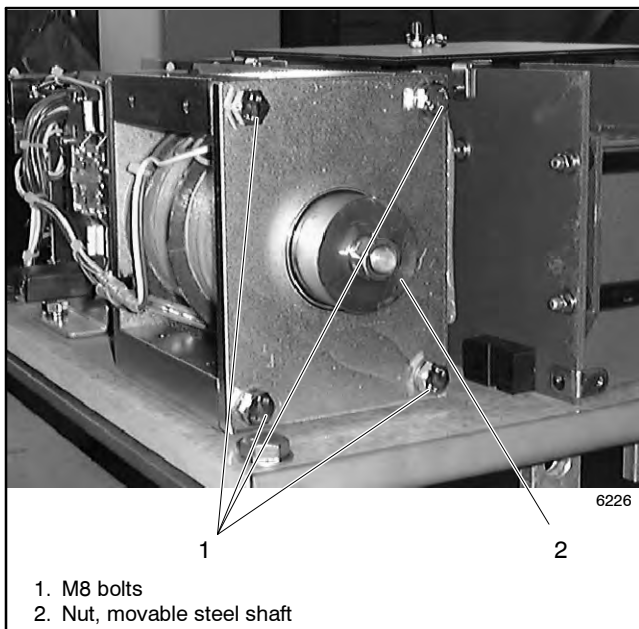

Figure 7-30 Closing Coil Bolts and Nut
3. The closing coil is spring-loaded. Hold the closing coil securely and remove four M8 bolts. Remove the closing coil. See Figure 7-30.
- c. Replace the four M8 bolts. See Figure 7-30.